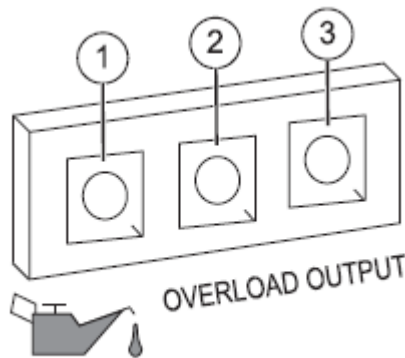

Figure-8 Status Indicators
3.4 GENERATOR STATUS LIGHTS: See Figure-8.
* **OVERLOAD LED (RED):** Indicates system overload (2). During motor starting it is normal for the overload LED to illuminate for a few seconds. If LED stays illuminated and the ready LED turns off, the engine will continue to run without output power. Remove all applied loads and determine if attached devices exceed recommended output power. Check for faulty or shorted connections. To restore electrical output, turn dial "OFF" to reset. Start engine. If condition was corrected, the orange LED will not illuminate and electrical output will be restored. Loads can be applied once the green LED illuminates. If the orange LED returns contact an ASD.
- * **LOW OIL LEVEL LED (Yellow):** Illuminates when oil level is below safe operating level. Engine shuts down (1).
- * **POWER LED (Green):** Indicates output from generator (3) (unless there is a low oil or overload condition).